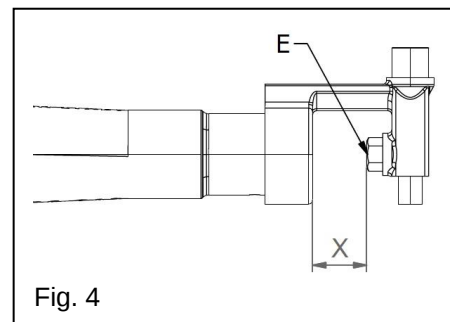

Fig. 4
5.1.2 Main burner (Fig. 4)
The distance foreseen for regulation of the primary air, for the burners of the hob and of the oven, is shown in Fig.4 and indicated in tables 2. Unscrew the injector "E" with a 11 mm spanner and mount the appropriate injector. Check the exact distance "X" for the primary air.